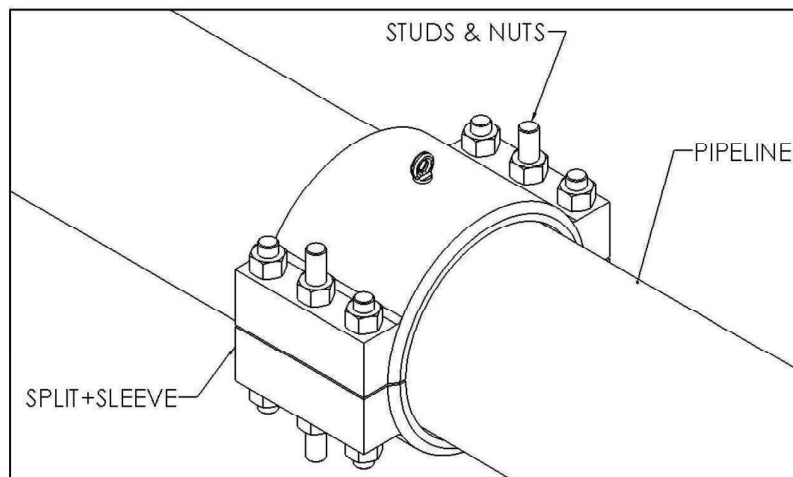
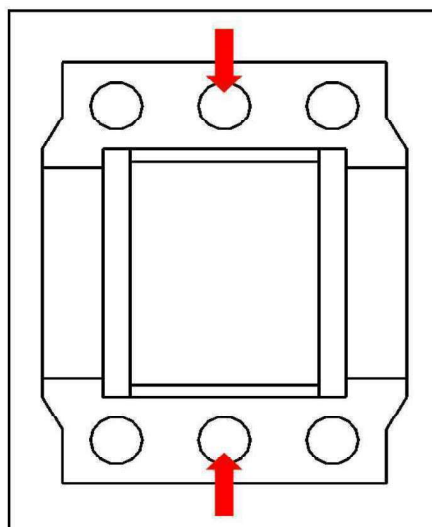
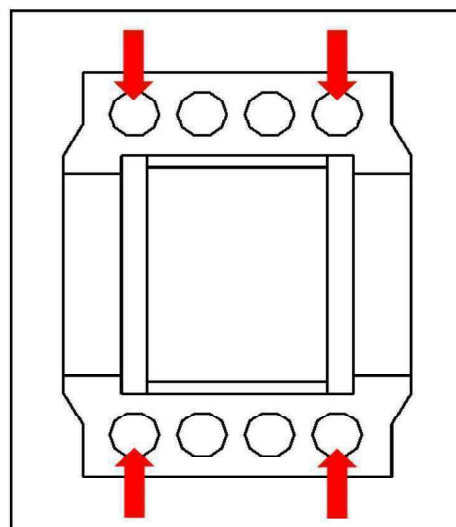

Figure 6
Figure 7
Figure 8
5. Install the studs and nuts through the holes in the Split+Sleeve as shown in Figure 6. Most Split+Sleeves will have two different stud lengths. The longer studs are used to help draw the sleeve together. Make sure the longer studs are in the proper holes. PLIDCO Split+Sleeves with 3 holes per side should have the longer studs in the two center holes (see Figure 7). Sleeves with more than 3 holes per side should have the longer studs in the four corner holes (see Figures 8).